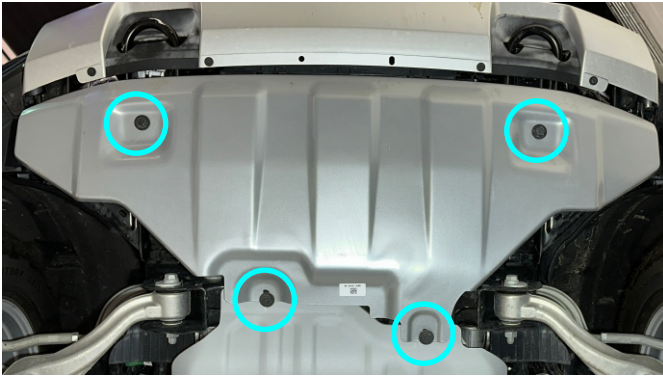

Fig. 1
1. Remove the front skid plate as shown in Fig.1.